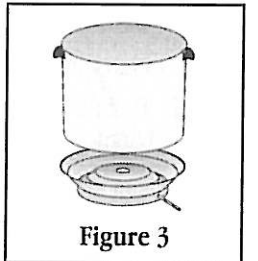

Figure 3
5. Fill the 8-quart cooling pot with cold water to the fill line or approximately 1" from the top of the pot. Place the cooling pot on top of the upper adaptor disc. See figure 3. Make sure all pots and disks are stable.